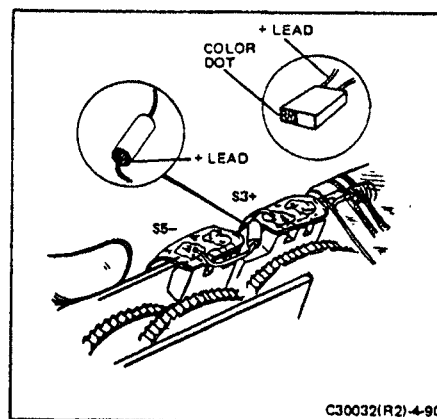

FIGURE 4-90 FAIRCHILD SHUTTER CAPACITOR INSTALLATION (TWO CAPACITOR TYPES)
**NOTE:** If the camera has a Fairchild shutter, install a .047 to .1 MF polarized capacitor to suppress electrical noise from a switch S3 contact bounce. If the subject camera is so equipped, no further action is required. If not, connect the positive lead of the capacitor to the positive S3 contact and the negative lead to the negative contact of the S5 switch. See Figure 4-90.
- c. Refer to Figure 4-90. Remove the S3 adjusting screw. Note that a tab on the switch body rides in a slot to prevent S3 from rotating.